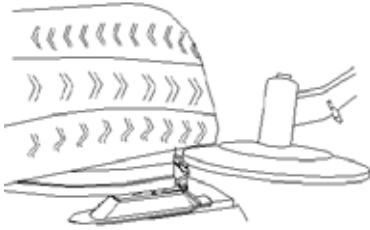

Figure 15
1. Turn the roller support and move it under the tire, but don't touch it with the rim (figure 15 on following page).